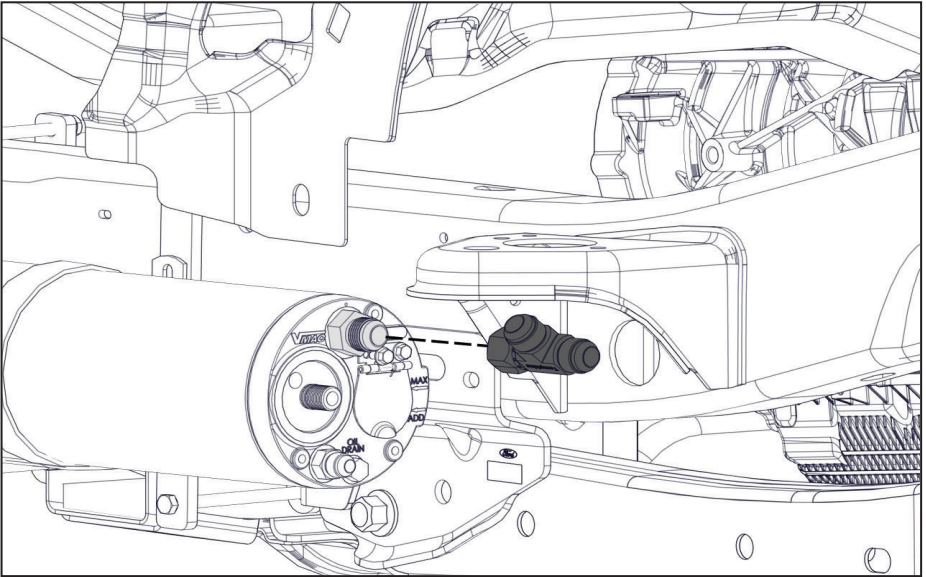

Figure 27 — Install fittings
- ☐ Install the supplied Tee fitting onto the AOST in the orientation shown (Figure 27).